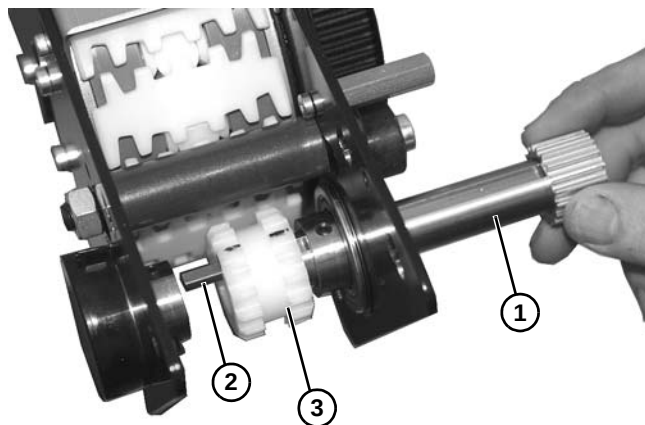

Figure 113
15. Remove drive shaft (**Figure 113, item 1**), making certain not to lose key (**Figure 113, item 2**) when removing gear (**Figure 113, item 3**).